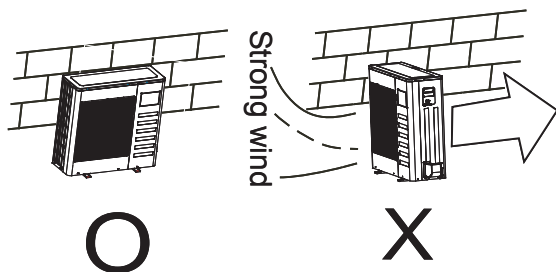

Fig 2.1
- In the case that the installation place is exposed to strong wind such as a seaside, make sure the fan operating properly by putting the unit lengthwise along the wall or using a dust shield. (Refer to Fig 2.1)